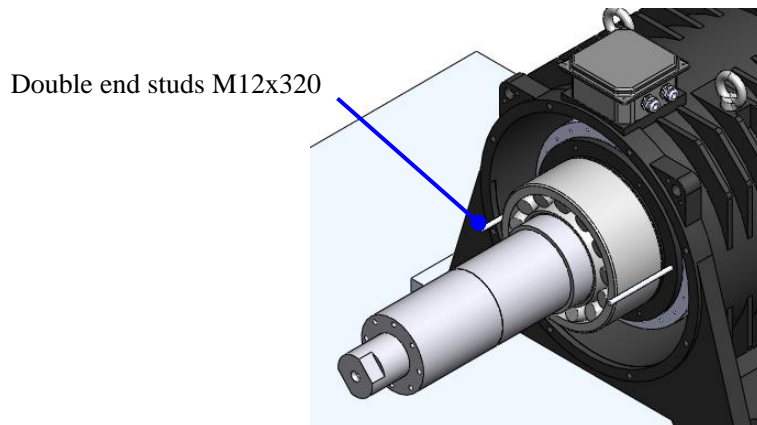

Figure 148: Attach double end studs
5. Screw the double end studs M12x320 to the inner cover. See Figure 148.